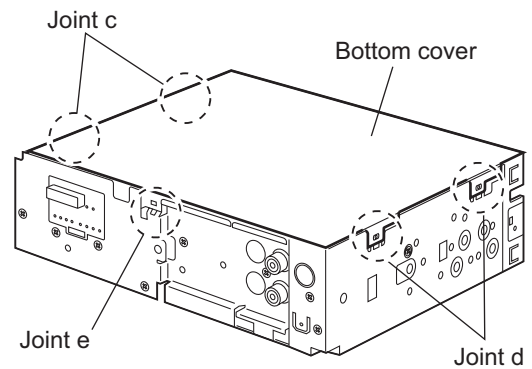

Fig.6
2.1.4 Removing the bottom cover (See Figs.6 and 7)
Do not damage the main board when releasing the joint **e** using a screwdriver. (See Figs.6 and 7)